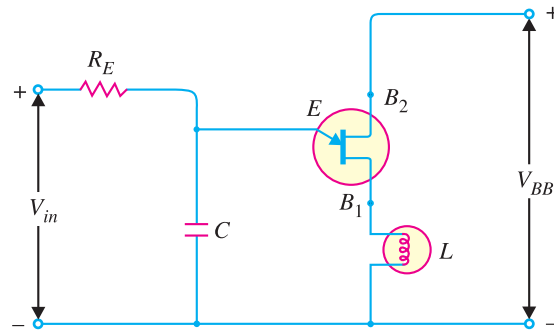

Fig. 21.31
**(ii) Overvoltage detector.** Fig. 21.31 shows a simple d.c. over-voltage indicator. A warning pilot - lamp  $L$  is connected between the emitter and  $B_1$  circuit. So long as the input voltage is less than the peak-point voltage ( $V_p$ ) of the *UJT*, the device remains switched off. However, when the input voltage exceeds  $V_p$ , the *UJT* is switched on and the capacitor discharges through the low resistance path between terminals  $E$  and  $B_1$ . The current flowing in the pilot lamp  $L$  lights it, thereby indicating the overvoltage in the circuit.